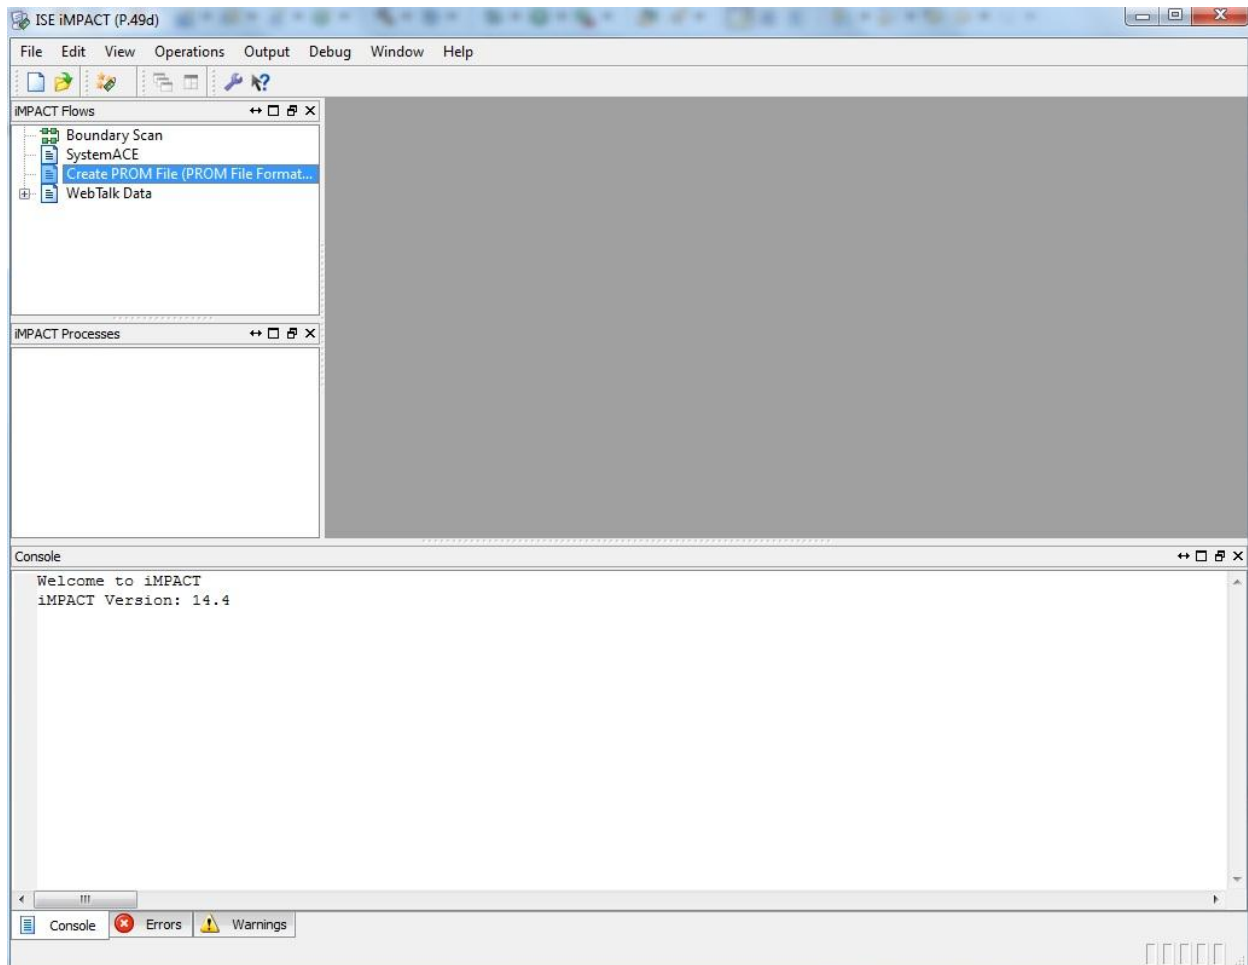

Figure 2
2. Double click **Create PROM File**(Figure 2).